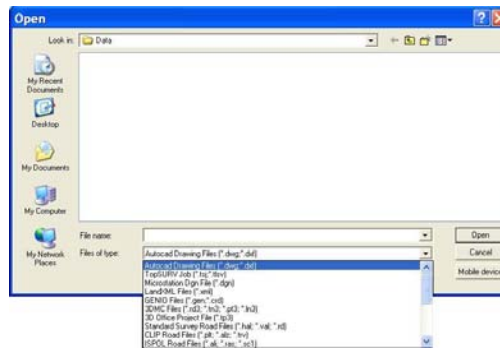

Figure 5-14. Import-Open
1. Click **File ► Import**. The *Open* dialog box appears (Figure 5-14).
3. Press **Open** (Figure 5-14).